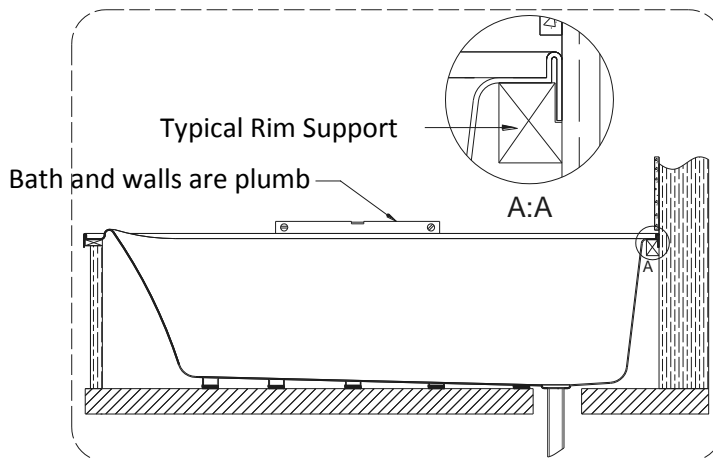
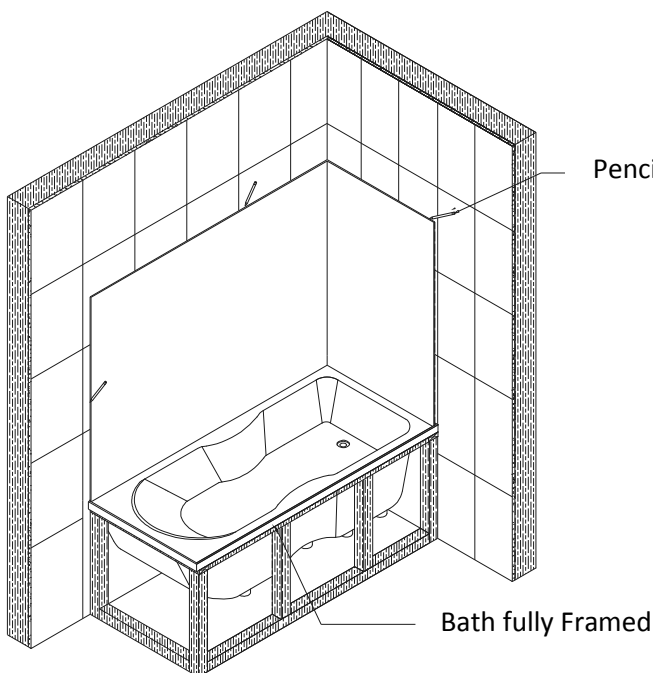

Fig1
Fig5
The bath must sit level on the floor and be fully supported by the PVC feet attached on the bath base. **FIG1**. The bath must be fully supported under the rim on all four sides.
Note **FIG5**, Also typical baton fitting **A:A Fig1**
(Two sides two ends) The timber support framing should be approximately 75mmx40mm gauge (this may vary depending on bath model) also this can change if the bath is recessed into the wall slightly. What is **important to know** is the type of panel finishing around the exposed sides of the bath that is to be used. If tiles the gap between the underside of the rim will be larger than if a thin panel lining. Note **FIG 2A** and **2B**, **2A** is set for tile backing board and tiles, **FIG2B** is set for a type of hardboard panel. Once all this is determined build a support cradle as shown in **FIG5**.
Make a test fitting prior to final installation of the bath to ensure it will correctly fit in place and be fully supported. The waste should be sealed, permanently fitted and lined up before doing this. Double check according to instructions the bath is plumb to walls and level. **FIG1**
3. Once satisfied the wall liner is correctly and fully into position (pushed tightly into corner) run a pencil line around the perimeter of the lining. **FIG5**. Within the pencil line where the acrylic wall will be attached ensure the Gib is screwed or clout nailed at 200mm centers.